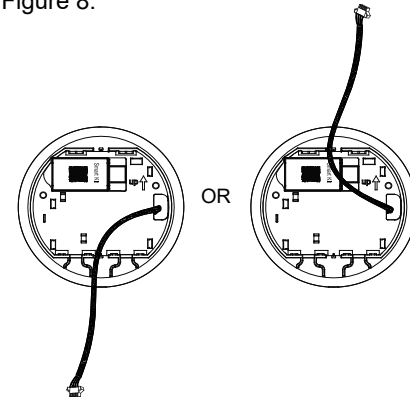

Figure 8.
5. For above or below Backing Plate, see route options as shown in Figure 8.